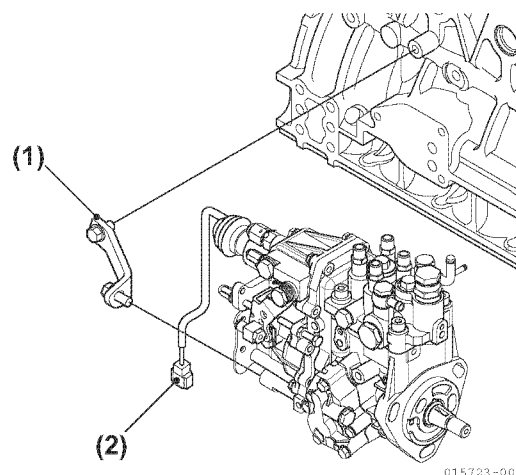

Figure 6-74
6. Reinstall the rear bracket (**Figure 6-74, (1)**) to the fuel injection pump. Tighten the rear support bolts.
7. Reconnect the throttle linkage and the stop solenoid connector **(Figure 6-74, (2))**.